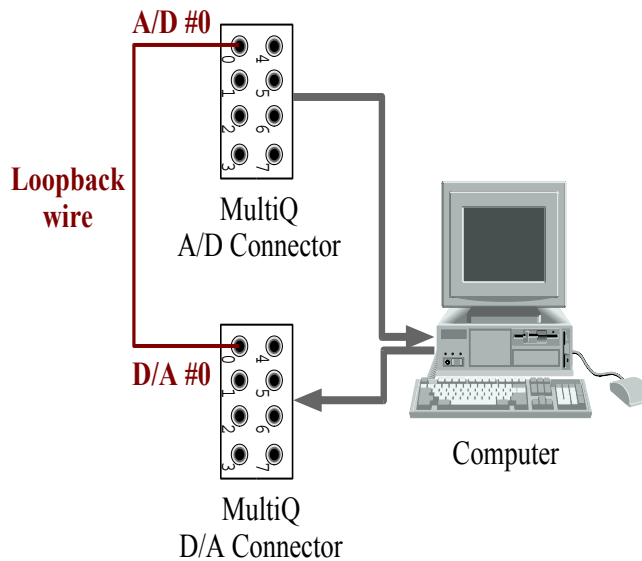

Figure 81 Loopback Wiring Configuration
1. Before using the analog loopback example, you need to **wire** analog output channel 0, i.e. D/A #0, on your data acquisition card to analog input channel 0, i.e. A/D #0. This configuration is illustrated in Figure 81 for the MultiQ-PCI card. No other hardware is required for this example.